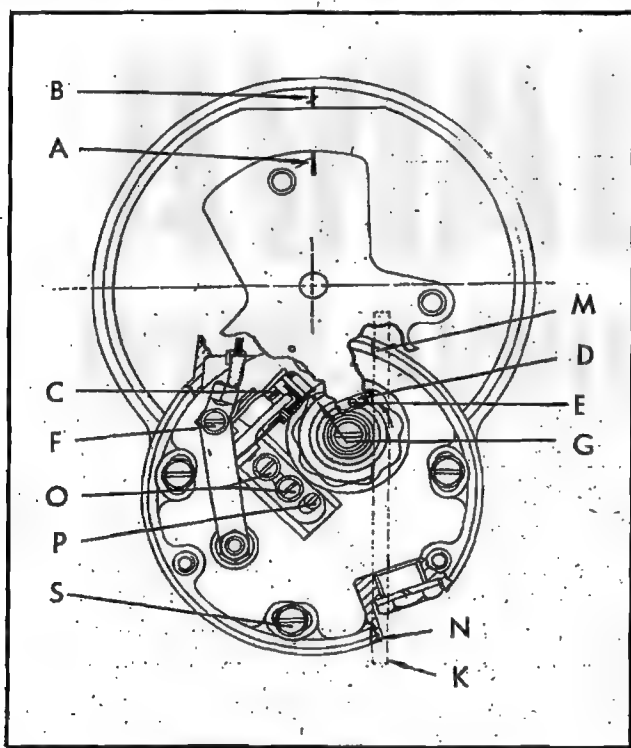

Figure 62—Magneto Timing Diagram
(4) Remove the breaker housing cover which exposes the cam and pivotless contact breakers in the housing.
(5) With the ignition switch "OFF" and the mixture control set in "IDLE CUT-OFF" turn the engine crankshaft in the direction of normal rotation, until the step cut in the breaker cam "L" lines up with the timing mark "M" cut in the rim of the breaker cup, as indicated by a straight edge "K" (preferably a steel scale). See figure 62 for designated details. At this
(b) Turn the magneto drive shaft in the direction of normal rotation until the step cut in the breaker cam "L" lines up with the timing marks "M" cut in the rim of the breaker cup as indicated by a straight edge "K" (preferably a steel scale). See figure 62. At this point the timing mark "A" on the distributor rotor will coincide with the mark "B" on the front end plate, indicating that the rotor is in a position to distribute a spark to No. 1 cylinder.